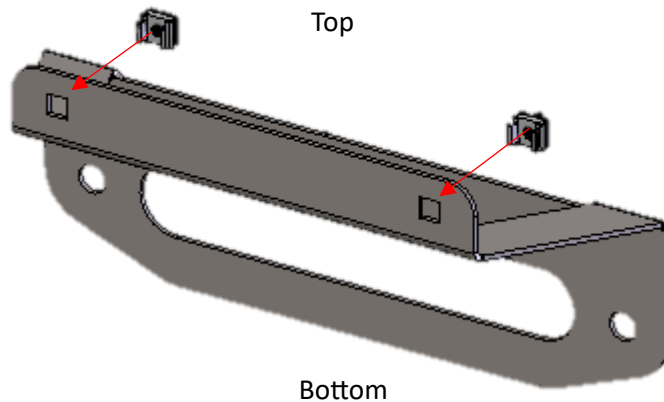

Figure 1
3. Install the silver snap nuts into the top of your license plate bracket from the back. (Figure 1)